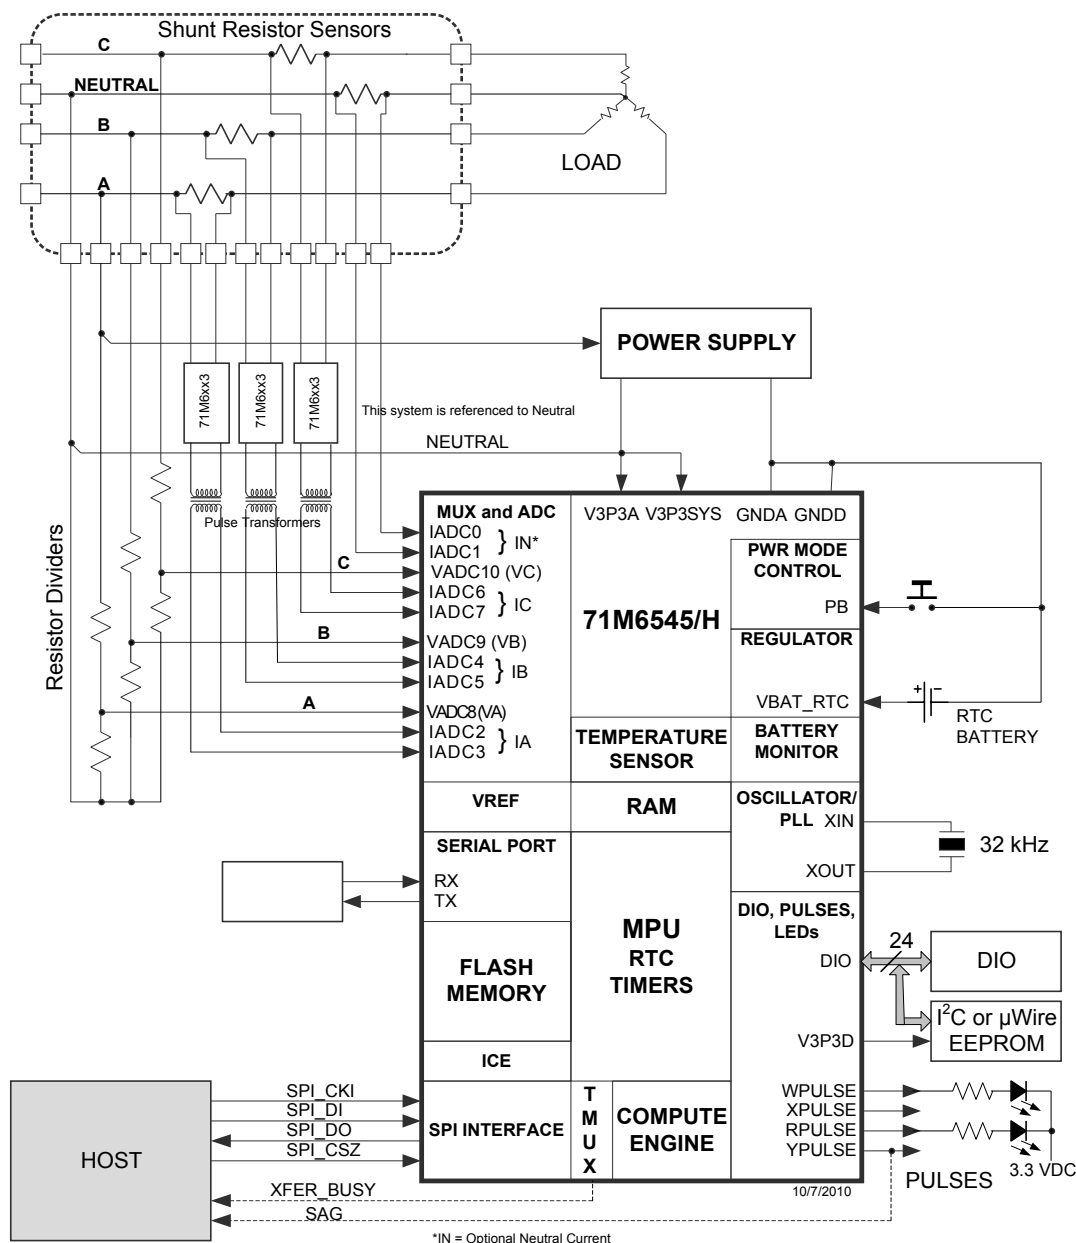

Figure 27: System Using Three-Remotes and One-Local (Neutral) Sensor
Figure 27 shows a typical connection for current shunt sensors; using the 71M6xx3 (poly-phase) isolated sensors. Note that one shunt current sensor is connected without isolation, which is the neutral current sensor in this example (connected to pins IADC0-IADC1). Each 71M6xx3 device is electrically isolated by a low-cost pulse transformer. The 71M6545/H current sensor inputs must be configured for remote sensor communications, as described in 2.2.8. Flexible remapping using the I/O RAM registers  $MUXn\_SEL[3:0]$  allows the sequence of analog input pins to be different from the standard configuration (a corresponding CE code must be used). See Figure 2 for the AFE configuration corresponding to Figure 27.
This section discusses metrology temperature compensation for the meter designs where current shunt sensors are used in conjunction with the 71M6xx3 remote isolated sensors, as shown in Figure 27.
Referring to Figure 27, the VADC8 (VA), VADC9 (VB) and VADC10 (VC) voltage sensors are always directly connected to the 71M6545/H. Thus, the precision of the voltage sensors is primarily affected by VREF in the 71M6545/H. The temperature coefficient of the resistors used to implement the voltage dividers
Table 57 shows the five  $GAIN\_ADJx$  equation output storage locations and the voltage or current sensor channels for which they compensate for the 1 Local / 3 Remote configuration shown in Figure 27.
**Table 57:  $GAIN\_ADJn$  Compensation Channels (Figure 2, Figure 27, Table 1)**